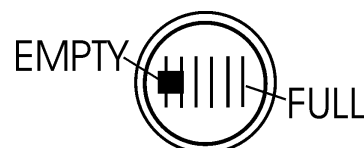

Figure 12. Fuel Gauge
3. Read the fuel gauge located on top of the fuel tank (Figure 12) to determine if the fuel level is low. If fuel is low, replenish with clean unleaded fuel.